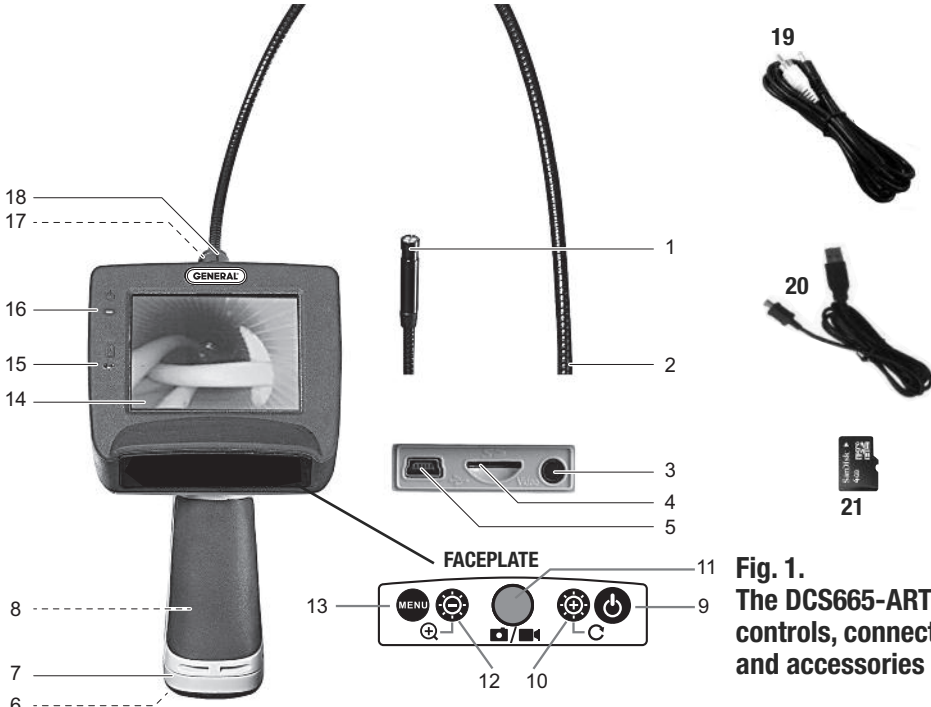

Fig. 1.
Fig. 1 shows the labels and positions of the controls and connectors on the front panel, top, bottom and right side of the Recording Wet/Dry Scope with Articulating Probe. Familiarize yourself with the controls' functions before moving on to the Setup Instructions.
The scope's battery compartment is accessible from the bottom of the pistol grip (Fig.1, Callout 8).
1. Use a Phillips-head screwdriver to turn the screw securing the compartment's cover (Fig. 1, Callout 6) counterclockwise until the head of the screw pops up, flush with the surface. It is not necessary to remove the screw.
If you wish to view real-time video captured by the scope's probe on an NTSC- or PAL-format television, insert the mini-plug end of the supplied A/V cable into the Video jack on the right side of the monitor (Fig. 1, Callout 3). Plug the yellow RCA connector at the other end of the cable into the television's "Video In" jack.
To power on the scope, press the  button (Fig. 1, Callout 9). This will cause the green Power On  LED (Callout 16) to light. The LCD will illuminate and show real-time video from the camera at the tip of the probe.